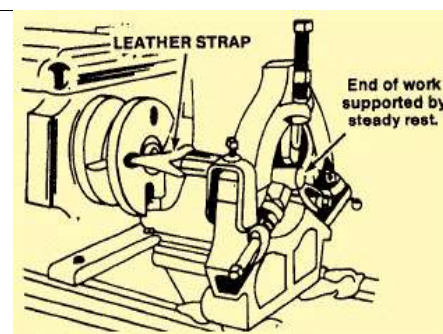

Figure 7-85. Tying the lathe dog.
**Using Steady Rest with the Lathe Dog:** When it is not possible to hold the work in the chuck, you can machine with one end supported by the headstock center and the other end supported by the steady rest. With the workpiece mounted between the centers, **tie the lathe dog**, then remove the tailstock center and perform the necessary machining. Use a leather strap or rawhide thong to tie the work to the drive plate and to prevent it from moving off the headstock center. Mount the work between centers and machine the bearing surface. (Figure 7-85).